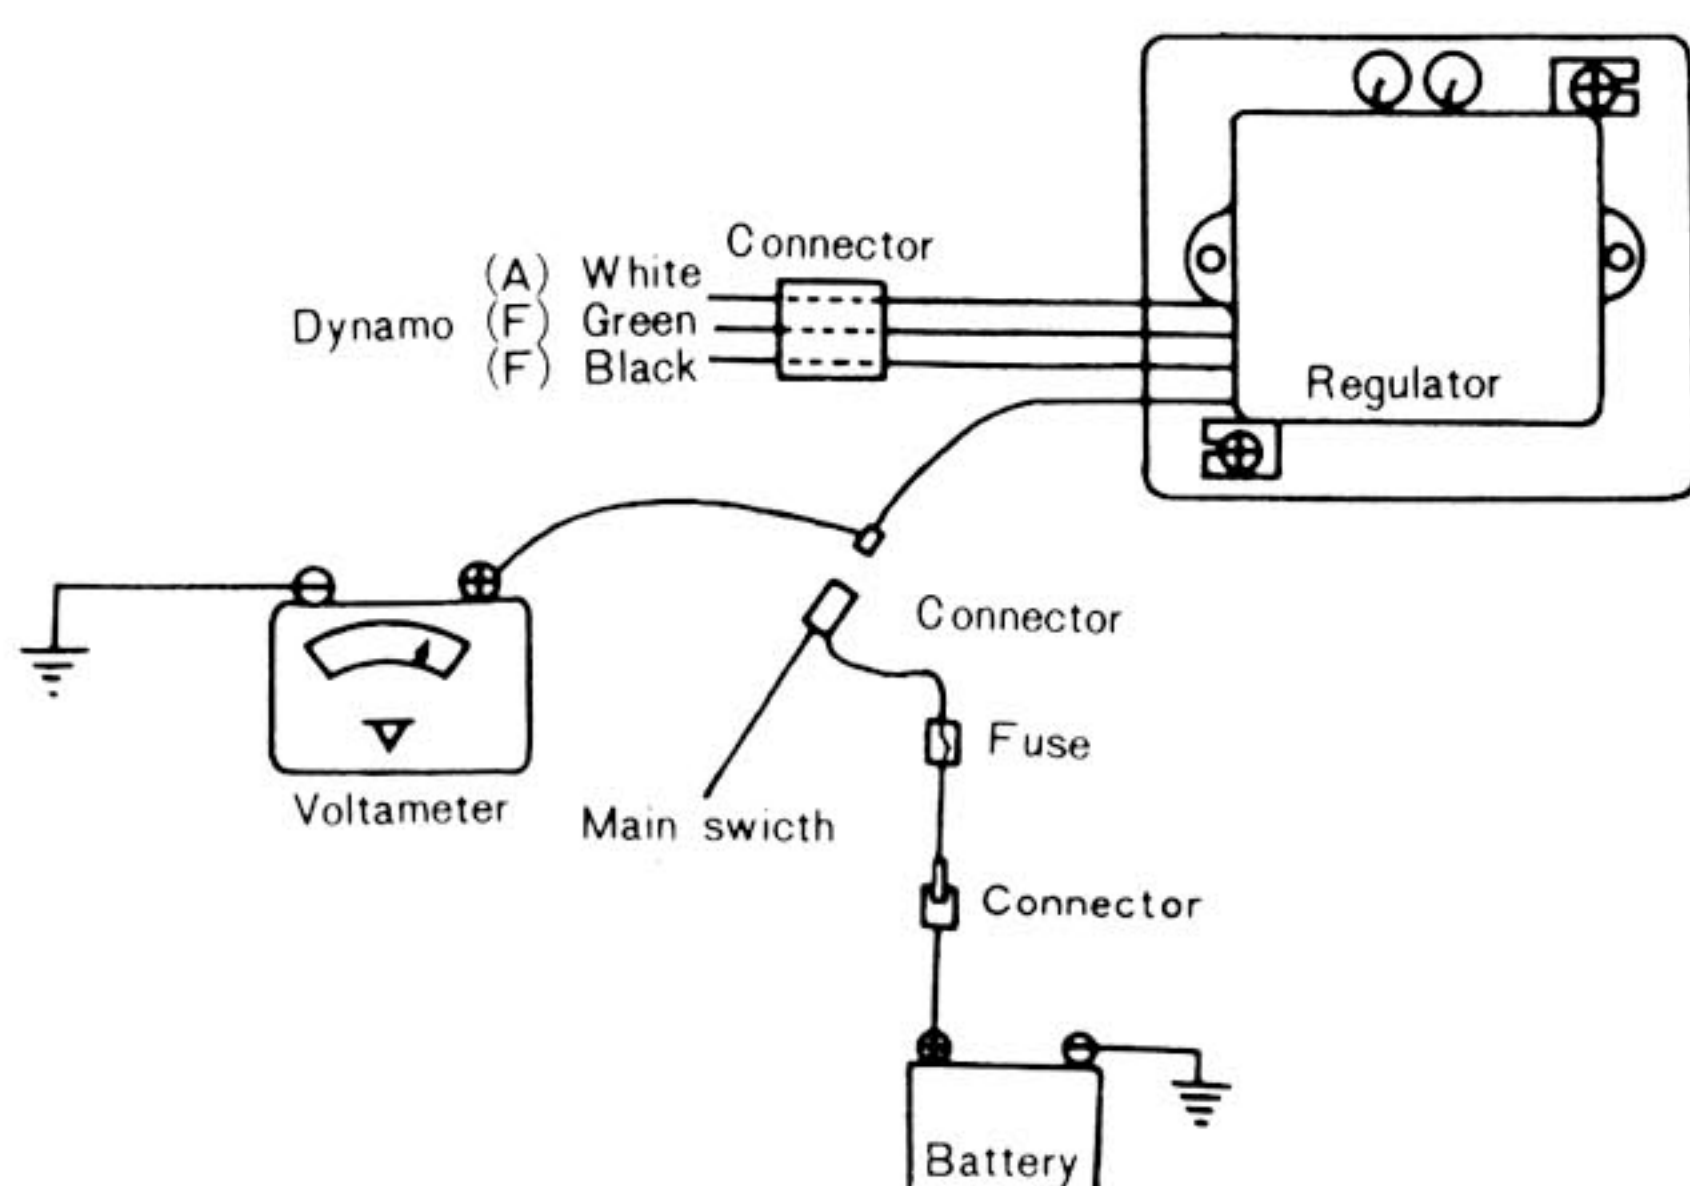

Fig. 6-6-1
- Start the engine and keep it running at 2,500 rpm. Your regulator is correct if the tester reads 15.8~16.5 V (Fig. 6-6-1)